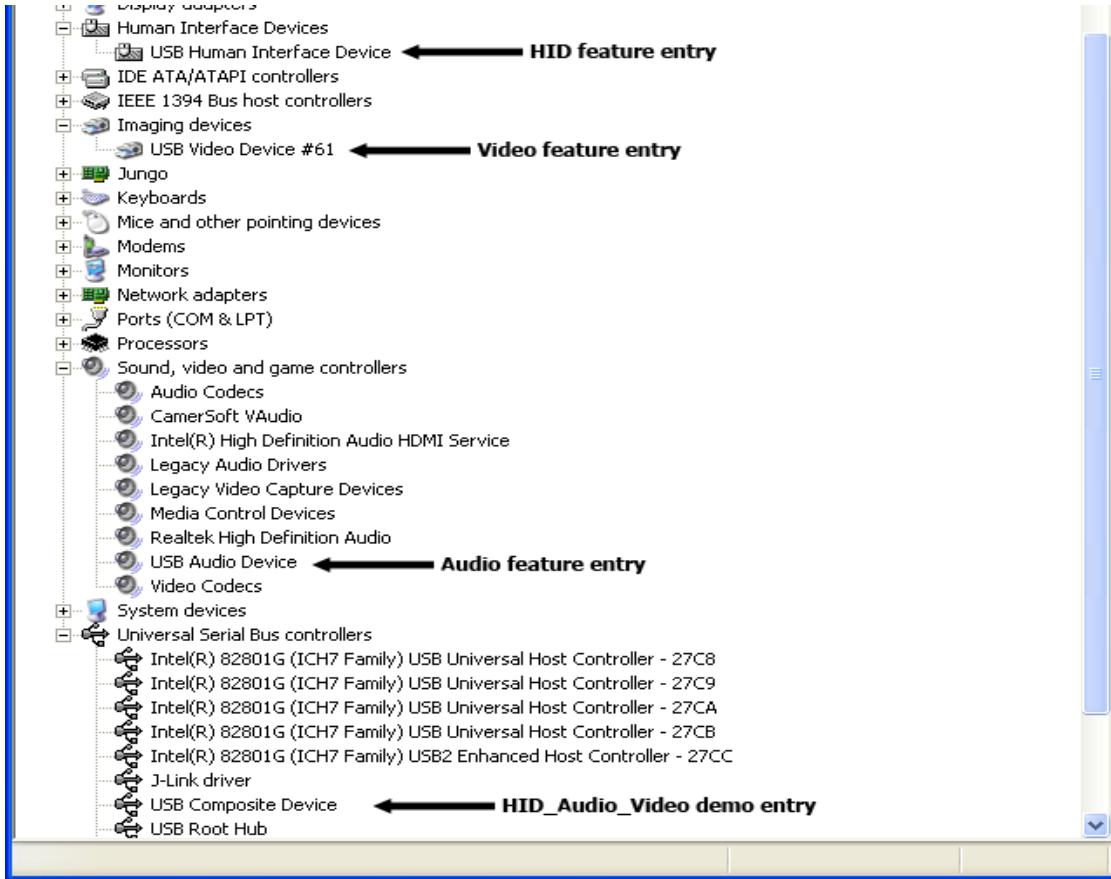

Figure L-8. Device Manager
3. To verify whether the USB Composite Device has been installed properly or not, you must see the each feature devices and composite device entry in the device manager as shown in Figure L-8.